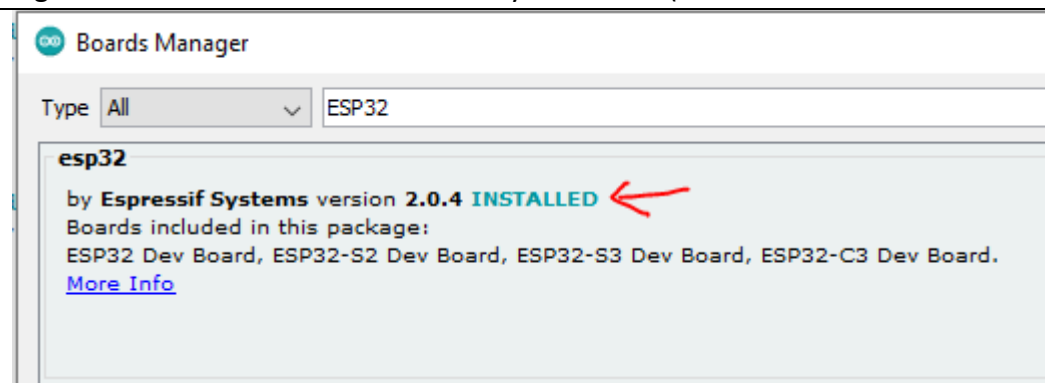

Figure-1.9. Board install completed.
10. When the installation is completed, 'Installed' is shown, as in Figure-1.9. Then press the button 'Close' (at the bottom) to close board manager.